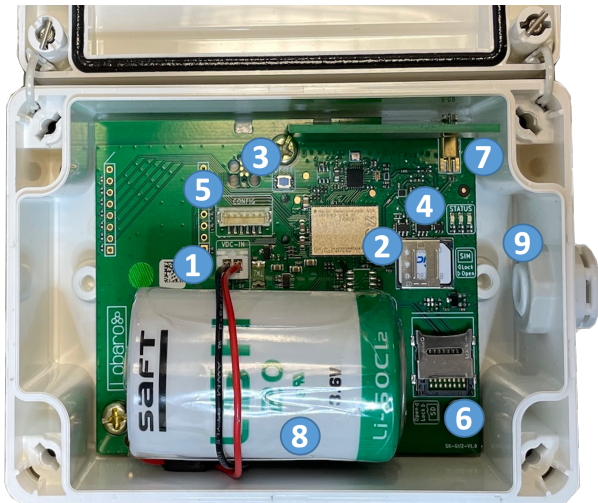

Figure 1: Device components
The associated battery is equipped with loop tape, which is to be attached to the velcro hooks of the device at position (8) when inserting it. Make sure that the connecting cable of the battery is routed around the battery body as shown in Fig. 1. Then connect the plug connector of the battery to the reverse polarity protected socket at position (1).